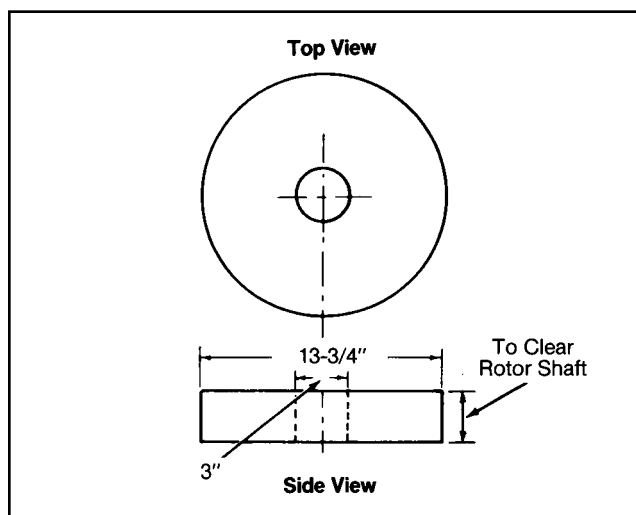

Figure 3B – Circular Wood Block
- Circular wood block (Figure 3B) to support rotor.